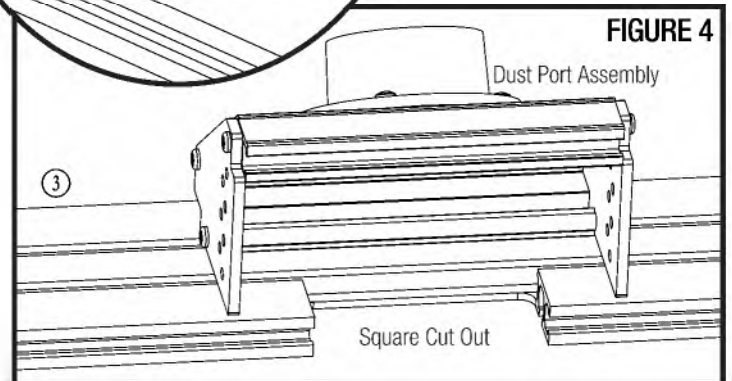

FIGURE 4
6. Center the Dust Port Housing over the square cut out and flush against the back edge of the base fence. Now tighten both Socket Screws with the Hex Key. **FIGURE 4.**